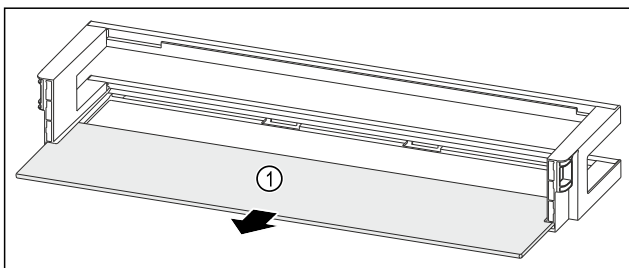

Fig. 64 Door rack with shelf
- ▶ Remove the shelf Fig. 64 (1).